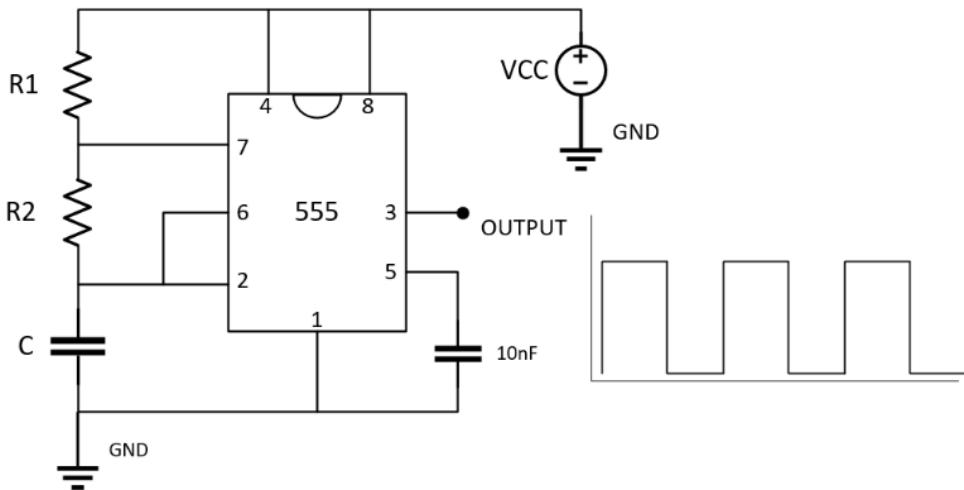

Fig. 2 Astable Multivibrator
The circuit of an Astable multivibrator is shown in **Fig. 2**. The selection of R_1 , R_2 and C is important to form the wave. The capacitor ‘C’ undergoes charging through series combination of R_1 & R_2 and when the voltage across the capacitor reaches $2/3$ of the supply voltage V_{cc} , pin 6 detects this condition and turns the output OFF. Hence charging time is
1. Build the circuit of Fig. 2 on bread board. Use general purpose IC-555 Timer. Connect a ceramic capacitor of value $0.01 \mu F$ at Pin5 (control pin). Apply the DC voltage $6V$ from the DC voltage source to Pin 8 (V_{cc}) & Pin4 (reset).